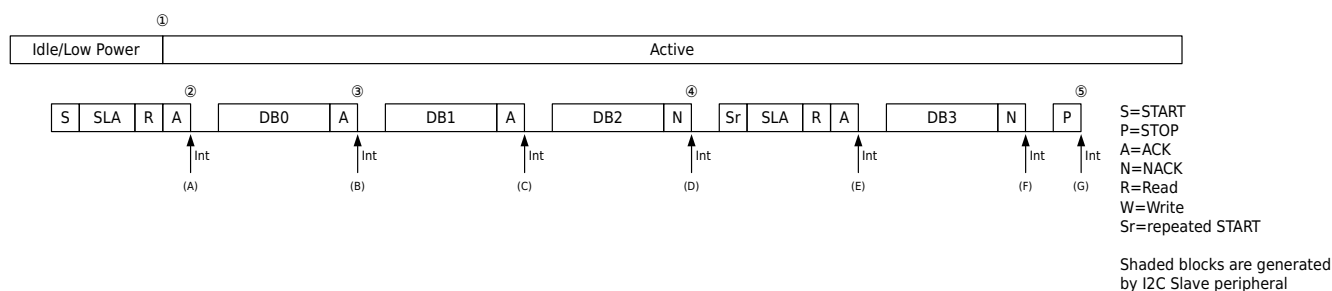
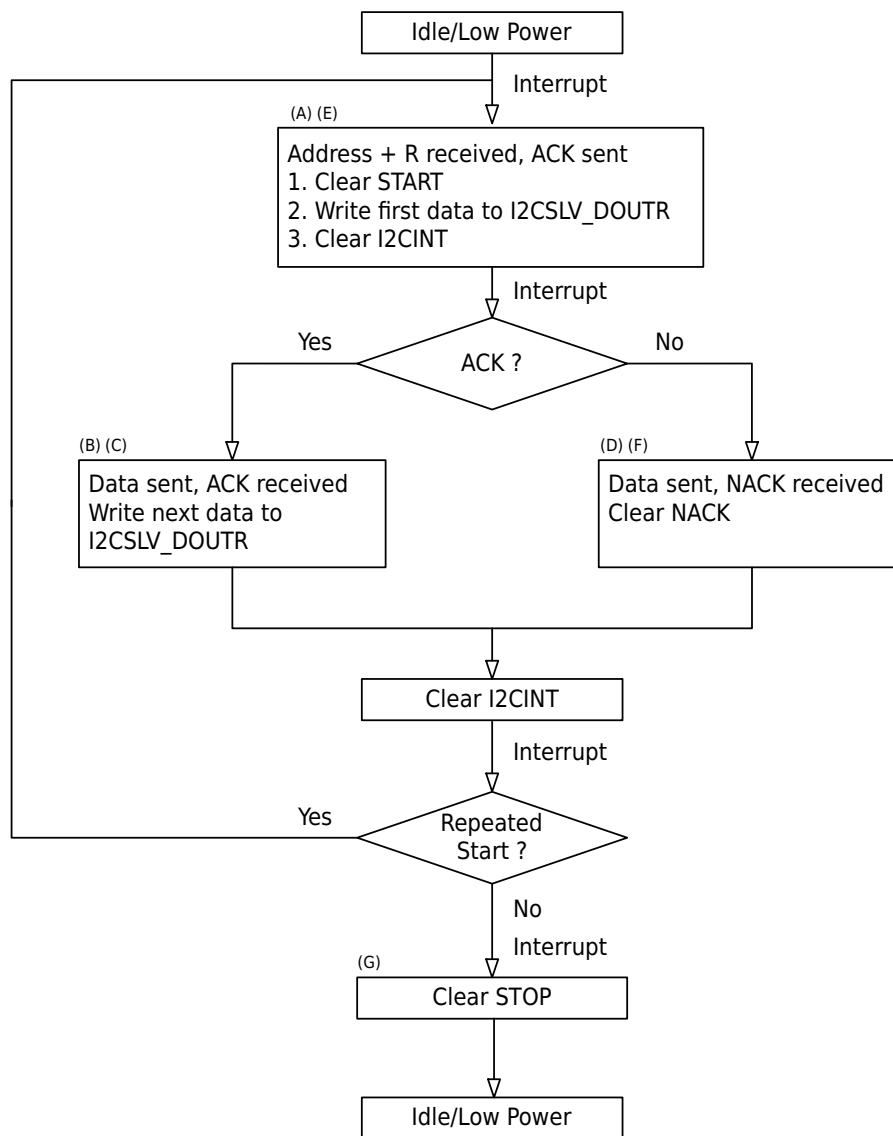

Figure 23-4 Example of I2C Master Receiving and Slave Transmitting Sequence
Figure 23-5 I2C Master Receiving and Slave Transmitting Operation Flow Diagram
- Step2.** An interrupt will be generated after the ACK in the address phase. This module automatically determines whether the sent data is empty. If it is empty, it will pull SCL low and wait until the software writes I2CSLV_ICR.I2CINT=0 before releasing it; If the hardware receives a NACK signal, it will not pull SCL low. The software executes when Figure 23-5 : I2C Master Receiving and Slave Transmitting Operation Flow Diagram pressed.
Figure 23-4 : Example of I2C Master Receiving and Slave Transmitting Sequence Sequence examples are given, including RESTART, Figure 23-5 : I2C Master Receiving and Slave Transmitting Operation Flow Diagram describing this sequence and software interrupt operation.